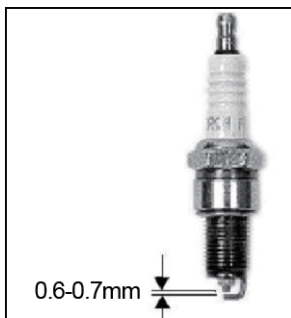

Fig. 14
- 3) Using a feeler gauge; set the gap to 0.6-0.7 mm. (Fig.14&15)